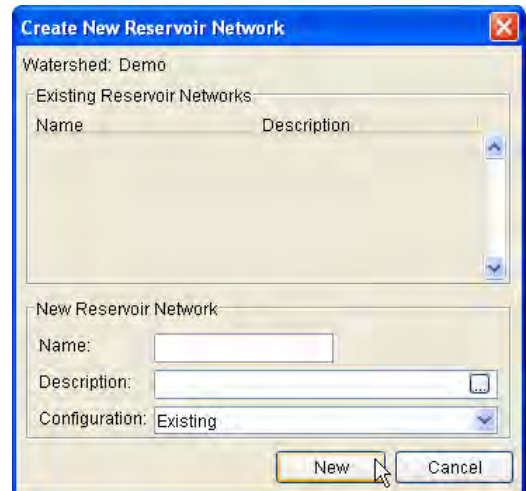

Figure 14 – Create New Reservoir Network
1. **Create/Open a Reservoir Network.** From the **Network** menu, select **New**. The **Create New Reservoir Network** window will appear (Figure 14). Specify a name and description for the network. Then, select the Configuration on which this network will be based and click **New** [Section 8.2].